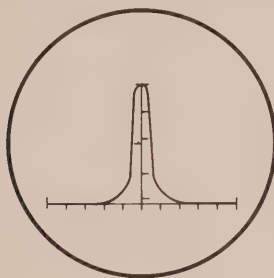

Figure 18
- ( ) Now, alternately adjust the cores of transformers T2 and T3 for the most symmetrical pip (as shown in Figure 18) while maintaining maximum pip amplitude.